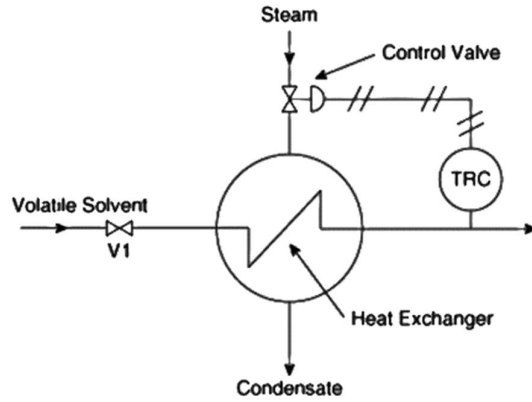

Figure 1: Volatile solvent heating system
- Q.4(b) A heat exchanger is used to heat flammable, volatile solvents as shown in Figure 1. The temperature of the outlet stream is measured by a thermocouple, and a controller valve manipulates the amount of steam to the heat exchanger to achieve the desired set point temperature. [7]